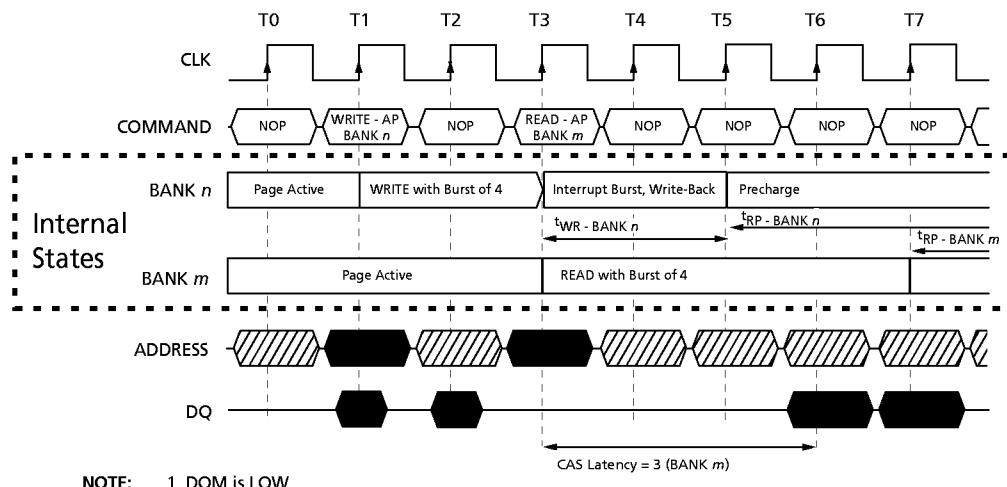

Figure 26
3. Interrupted by a READ (with or without auto precharge): A READ to bank m will interrupt a WRITE on bank n when registered, with the data-out appearing CAS latency later. The PRECHARGE to bank n will begin after t^{WR} is met, where t^{WR} begins when the READ to bank m is registered. The last valid WRITE to bank n will be data-in registered one clock prior to the READ to bank m (Figure 26).